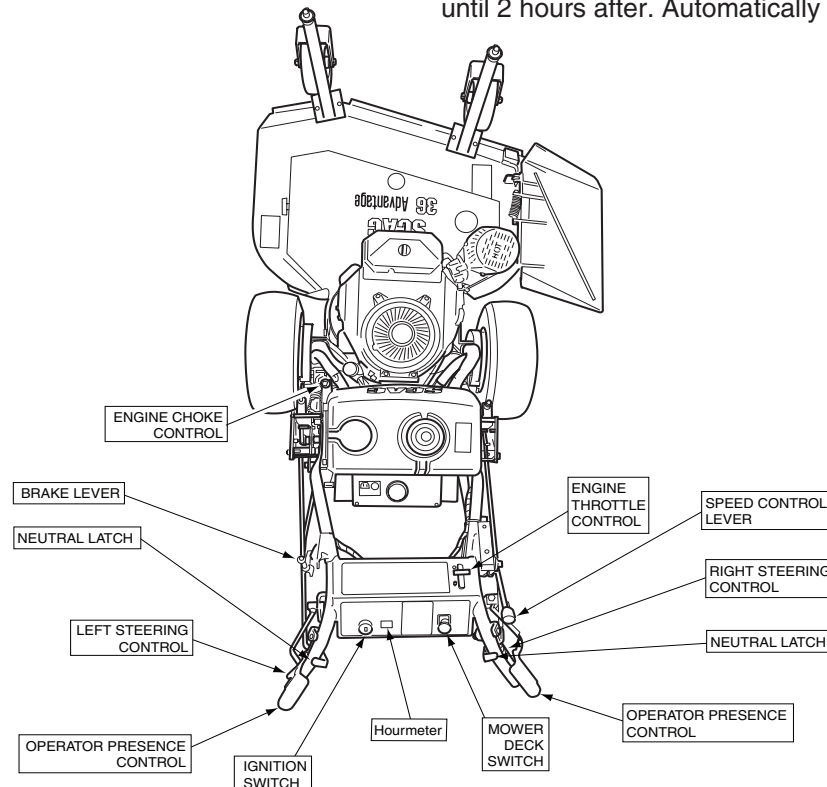

Figure 4-1. Controls and Instruments
1. **Ignition Switch (Figure 4-1).** The ignition switch is used to start the engine. Turn the key to the on position before pulling the recoil starter.
2. **Mower Deck Switch (Figure 4-1).** Used to engage and disengage the mower drive system. Pulling up on the switch will engage the deck drive. Pushing down on the switch will disengage the deck drive.
3. **Engine Choke Control (Figure 4-1).** Used to start a cold engine.
4. **Engine Throttle Control (Figure 4-1).** Used to control the engine speed. Pushing the lever forward increases engine speed. Pulling the lever back decreases engine speed. Full back position is the IDLE position. Full forward is the cutting position.
5. **Left Steering Control (Figure 4-1).** Used to control the mower's left wheel when traveling forward or reverse. Pull upward for neutral and reverse.
6. **Right Steering Control (Figure 4-1).** Used to control the mower's right wheel when traveling forward or reverse. Pull upward for neutral and reverse.
7. **Hourmeter (Figure 4-1).** Indicates the number of hours the engine has operated. It operates whenever the engine is running. Has preset maintenance reminders for engines and hydraulic system oil changes. Will start flashing scheduled maintenance 2 hours before preset time and continue flashing until 2 hours after. Automatically resets.
8. **Speed Control Lever (Figure 4-1).** Used to select the forward speed.
9. **Neutral Latch (Figure 4-1).** Used to secure the hydraulic drive system in neutral. Apply neutral latches when parking the machine.
10. **Operator Presence Control (Figure 4-1)**The operator presence control levers must be depressed before the speed control lever is shifted out of neutral or engaging the mower deck.
11. **Parking Brake Lever (Figure 4-1)** Used to engage and disengage the parking brake. Pull the lever back to engage the parking brake. Push the lever forward to disengage the parking brake.